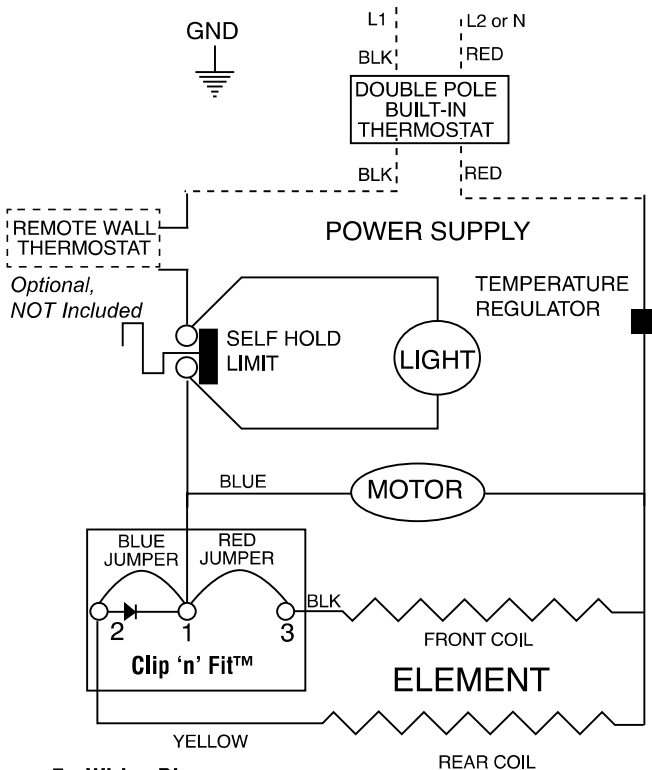

Figure 7 - Wiring Diagram
4. Connect one red and one black thermostat lead to power wiring per wiring diagram (Figure 7) using properly sized listed wirenuts (provided).
3. Make wiring connections, attaching one red and one black thermostat lead to two (2) black heater leads for 240V or to black and white heater leads for 120V with wirenuts (provided). Connect field ground lead to bare ground wire with wirenut (provided). See Figure 7.